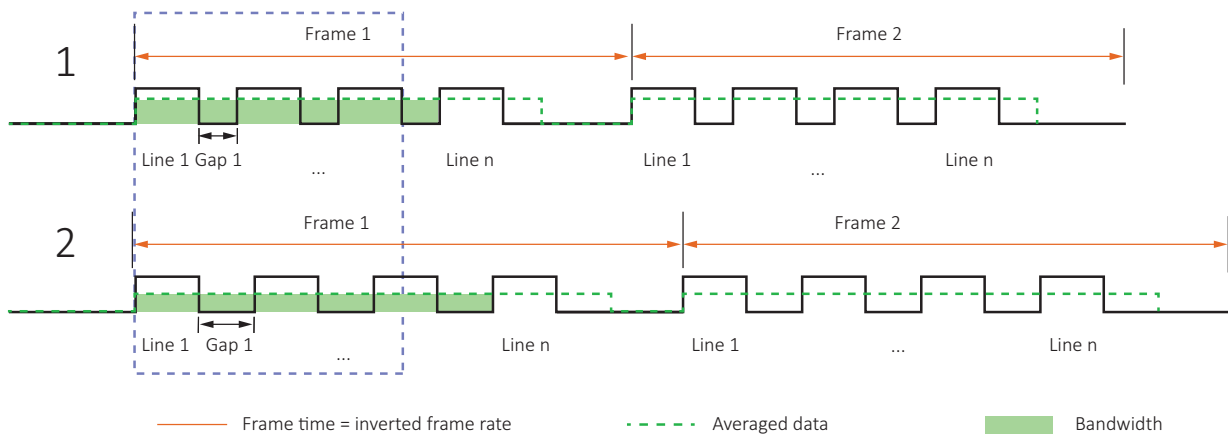

Figure 121: Sensor data output and camera data output
Figure 121 shows the bandwidth for a higher (1) and a lower (2) value for `DeviceLinkThroughputLimit`.